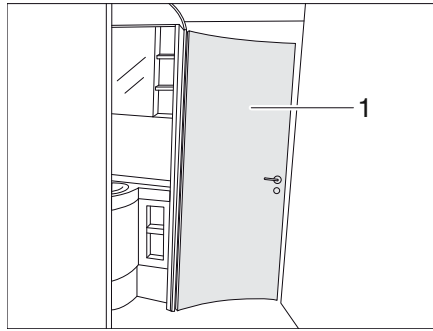

Fig. 201 Bath area
The door of the toilet area (Fig. 201,1) can be locked into a bath area in 1-3 different opening widths depending on the equipment. Depending on the selected opening width, different room segments can be combined with each other.
- ▷ The door of the toilet area (Fig. 201,1) may not be used as a partition during the journey.